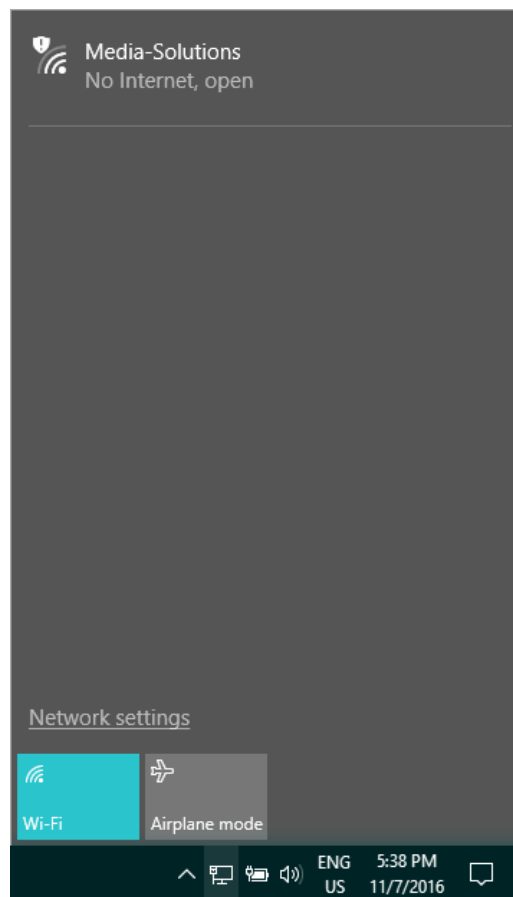

Figure 79: Scanning for Available Wi-Fi Networks
2. Using your Wi-Fi enabled device, scan for Wi-Fi networks. The "**Media-Solutions**" network should appear on the scanned list, as shown in Figure 79 below.